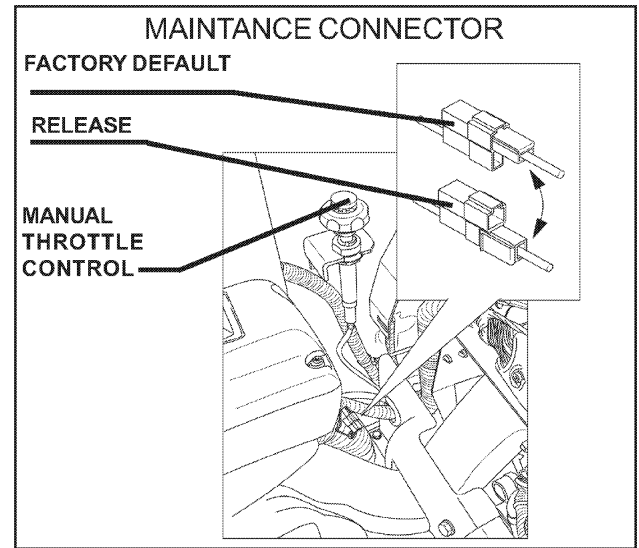

FIGURE 5.2
2. Place the maintenance connector in the release position. See Figure 5.2